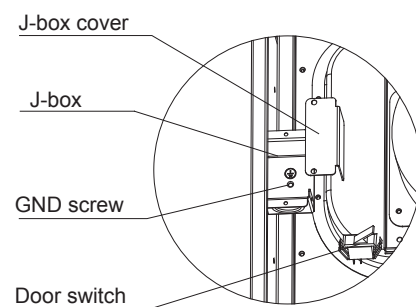
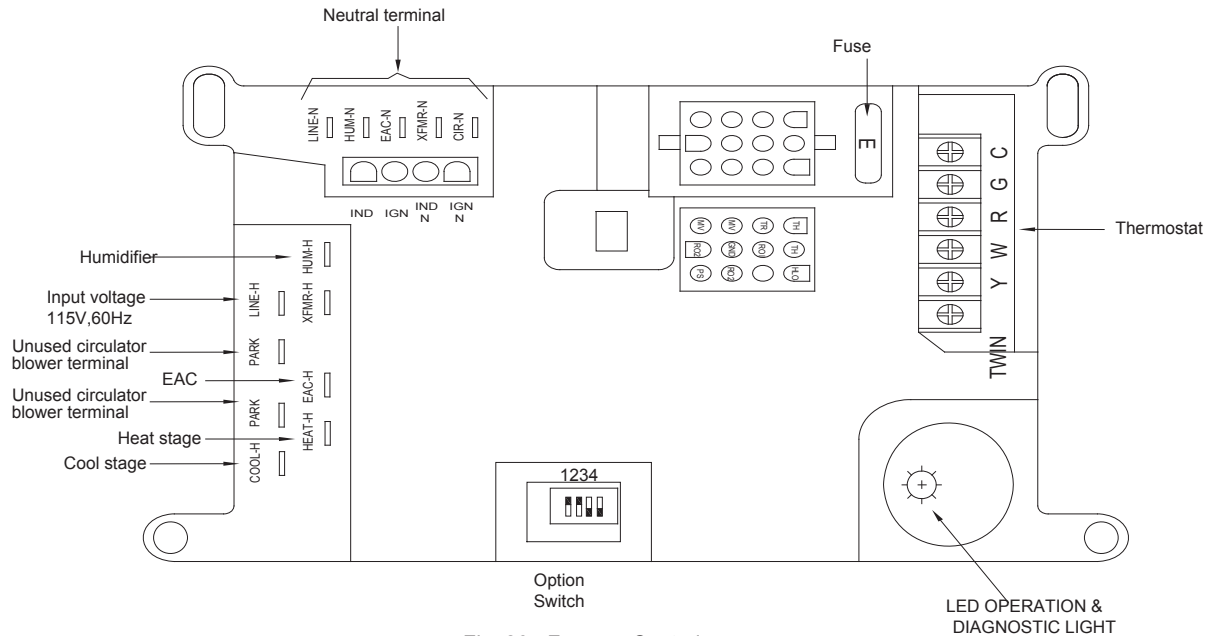
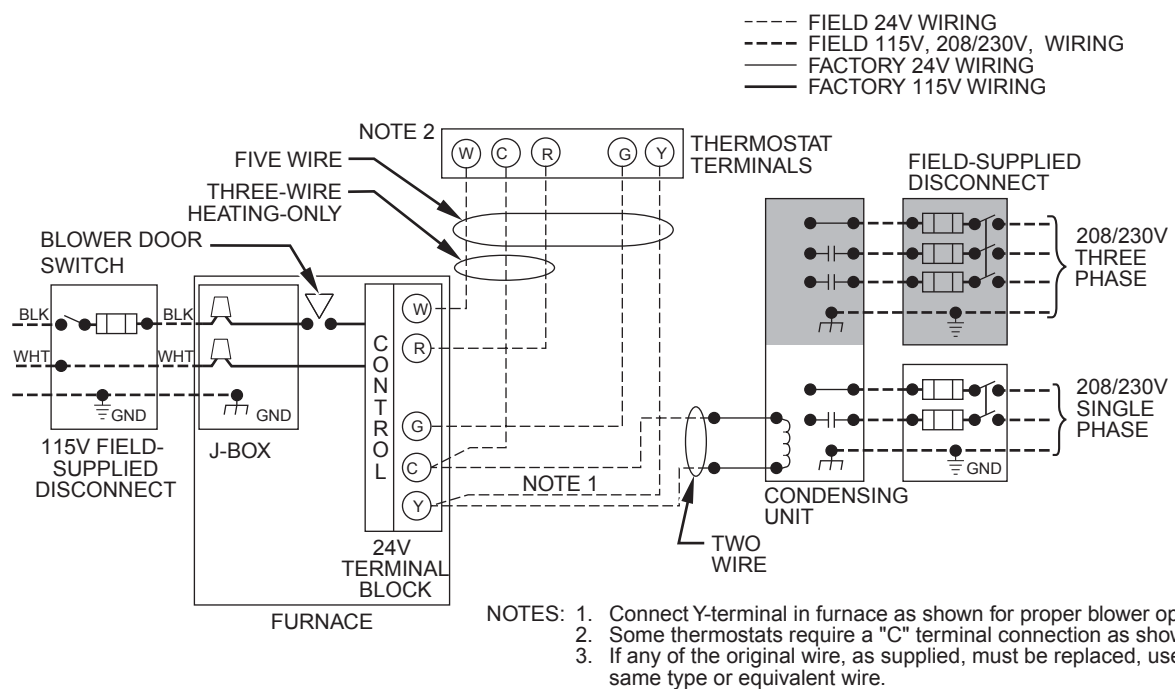

Fig. 25 - J-box
Fig. 26 - Furnace Control
Fig.27 - Heating and Cooling Application Wiring Diagram with I-Stage Thermostat
Field-Supplied Electrical Box on Furnace J-Box Bracket See Fig. 25.
5. Connect line voltage leads as shown in Fig. 27.
Electrical Box on Furnace Casing Side. See Fig. 25 and Fig 27.
4. Remove and save two screws holding J-Box. (See Fig. 25.)
12. Complete electrical box wiring and installation. Connect line voltage leads as shown in Fig. 27. Use best practices (NEC in U.S. and CSA C22.1 in Canada) for wire bushings, strain relief, etc.
Make field 24V connections at the 24V terminal strip. (See Fig. 26.) Connect terminal Y/Y2 as shown in Fig. 25 for proper cooling operation. Use only AWG No. 18, color-coded, copper thermostat wire.
Connect an accessory Electronic Air Cleaner (if used) using 1/4-in female quick connect terminals to the two male 1/4-in quick-connect terminals on the control board marked EAC-H and EAC-M. The terminals are rated for 115V AC, 1.0 amps maximum and are energized during blower motor operation. (See Fig. 26.)
Connect an accessory 115V AC, 0.5 amp. maximum humidifier (if used) to the 1/4-in male quick-connect HUM-H terminal and HUM-N terminal on the control board. The HUM terminal is energized when gas valve relay (GVR) is energized. (See Fig. 26.)
1. Maintain 115V wiring and ground. Improper polarity will result in rapid flashing LED and no furnace operation. (See Fig. 27)
2. Make thermostat wire connections at the 24-V terminal block on the furnace control. Failure to make proper connections will result in improper operation. (See Fig. 27.)
(See Fig. 27 for thermostat connections.)
(See Fig. 27 for thermostat connections)